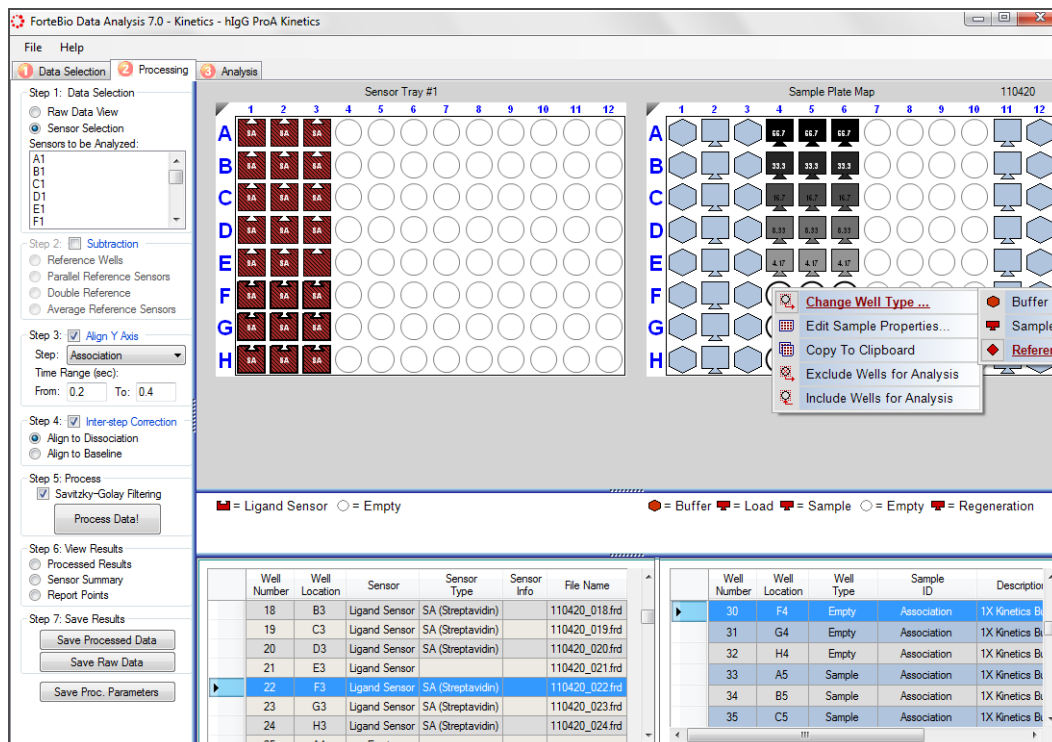

Figure 5-19: Specifying Reference Wells
- b. Right-click and select **Change Well Type > Reference Well** (Figure 5-19).
- b. Right-click and select **Exclude Wells for Analysis** (Figure 5-19).